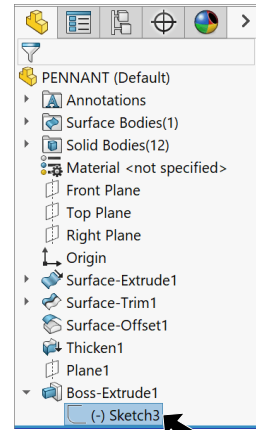

Fig. 44
Step 1. Select Sketch3 . To select, expand Boss-Extrude1 in the Feature Manager and click Sketch3 , Fig. 44.